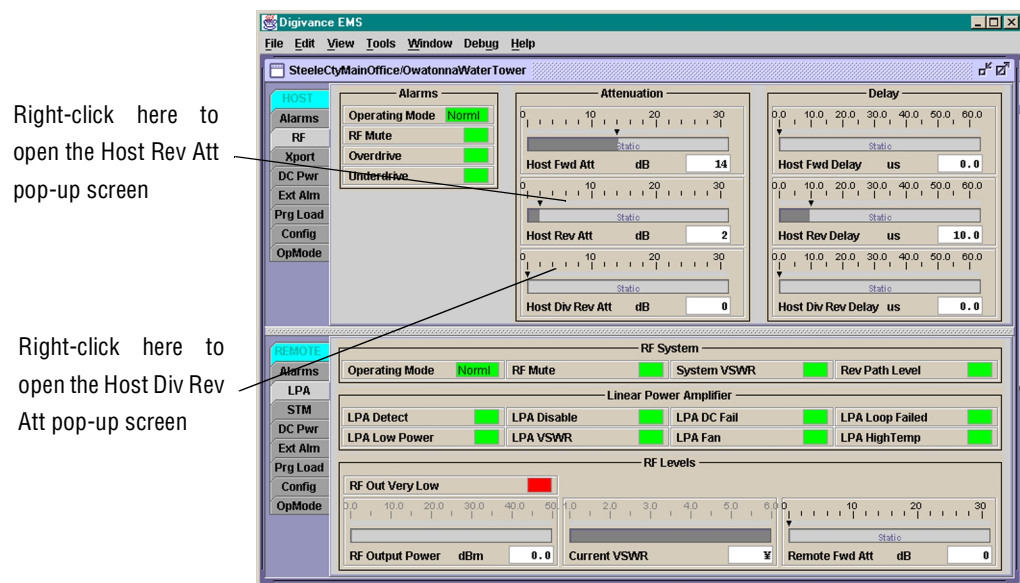
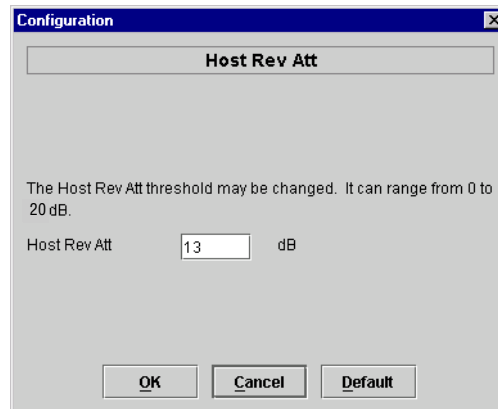

Figure 4-12. HOST RF Display
Figure 4-13. Host Rev Att Pop-Up Screen
4. Click on the HOST **RF** tab. The HOST **RF** display will open within the EMS main window as shown in Figure 4-12.
5. Right-click on the **Host Rev Att** section of the display (see Figure 4-12). The **Host Rev Att** pop-up screen will open as shown in Figure 4-13.
8. Repeat the process for the diversity reverse path by right-clicking on the **Host Div Rev Att** section (see Figure 4-12) and then entering the required attenuation value in the **Host Div Rev Att** pop-up screen.